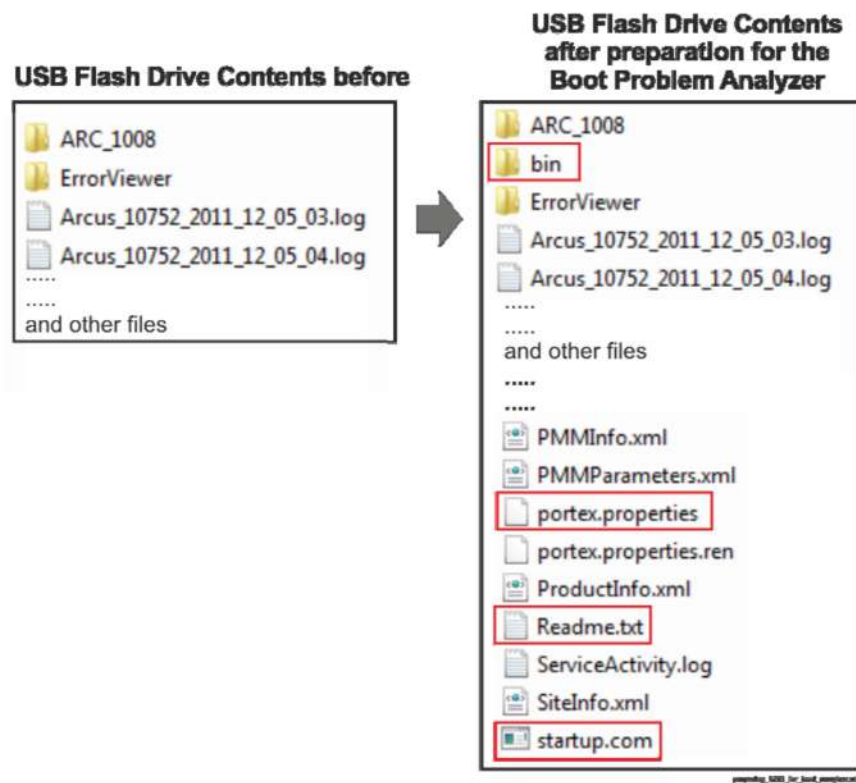

Figure 1
- (1) Switch off the digitizer.
- (2) Remove the digitizer USB flash drive and insert it at the Service PC.
- (3) Copy the content of folder "ARC_1103*/BootProblemAnalyzer" (*or higher version) to the root of the USB flash drive. See Figure 1.